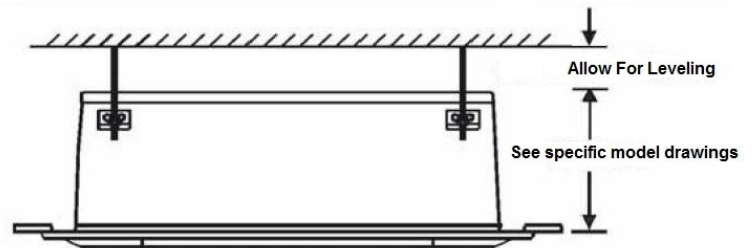

Figure 1
6. Check the distance between the upper slab and finished ceiling to ensure the unit has adequate space for installation. See Figure 1.